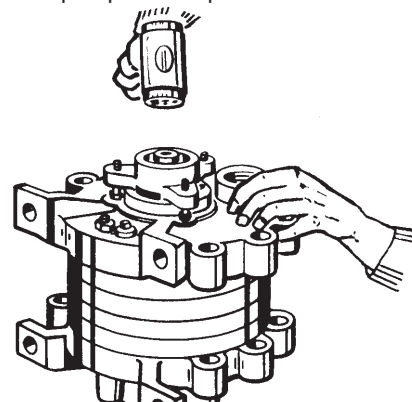

Figure 4-15
31. Carefully tap a bearing arm (#3B) over the bearing and retain with three nuts (#20). (refer to figure 4-15) They should be finger tight only. Return the pump to floor position.